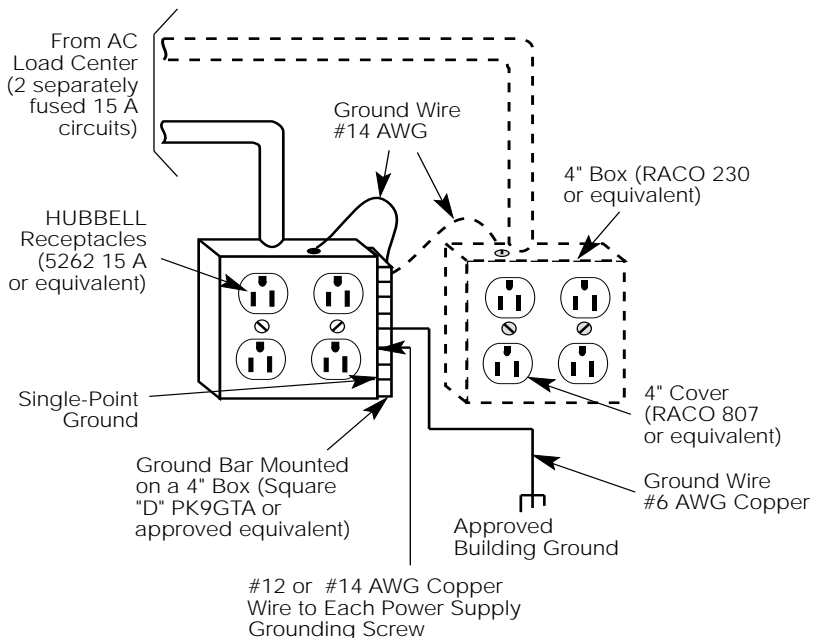
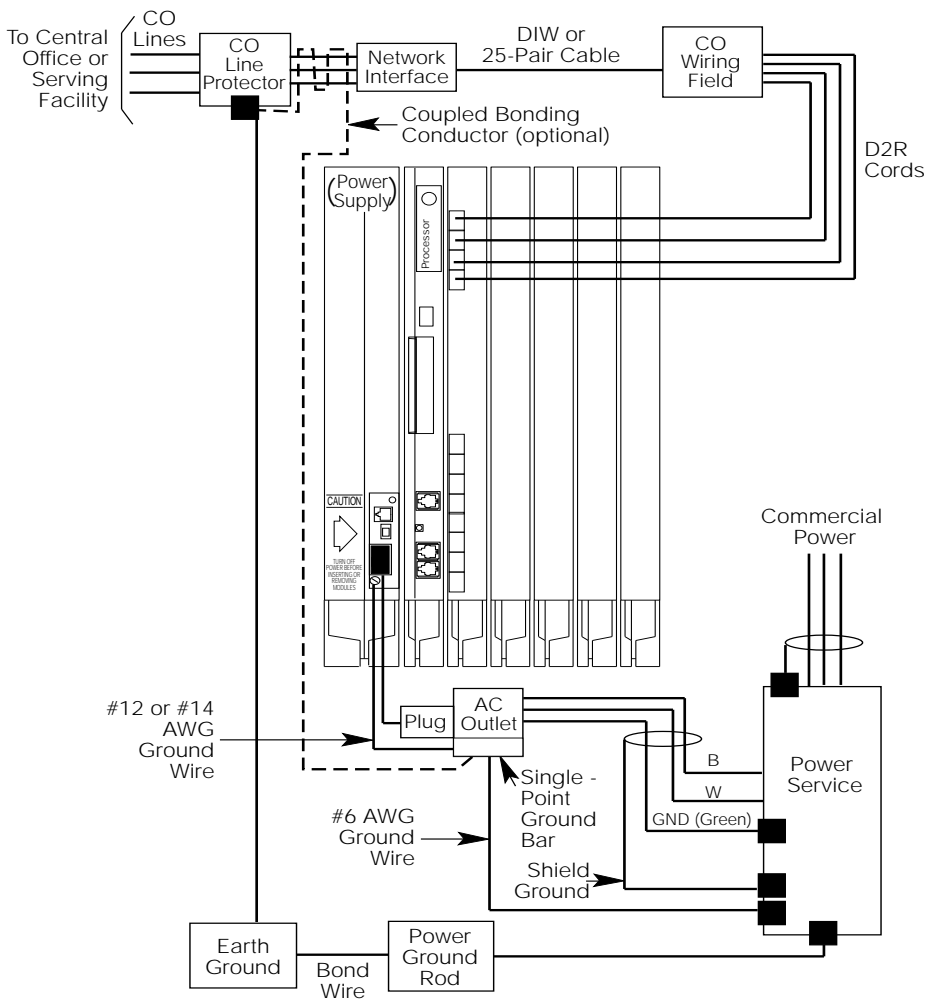

Figure 2-1. AC Grounding Requirements
Figure 2-3. Central Office and AC Grounds
- All AC outlets must connect to the same load center and the ground wire must connect to the single-point ground bar on the first AC outlet (see Figure 2-1).
- One outlet must have an attached ground bar connected by a #6 AWG copper wire to an approved ground (see “Approved Grounds”, later in this chapter, for a description of approved grounds). This ground bar is the system’s single-point ground (see Figure 2-1).
- Because equipment can be located throughout a building, the National Electrical Code requires that the ground point for the central office trunk protector be bonded to the AC power ground as shown in Figure 2-3.
- The AC outlet and the single-point ground bar must be properly grounded as shown in Figure 2-1 and Figure 2-3.
- Each power supply in the control unit must be connected to the single-point ground bar by a #12 AWG or a #14 AWG solid copper wire. Figure 2-1 and Figure 2-3 show this connection.